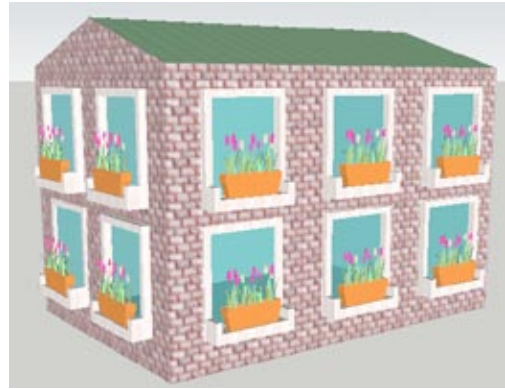

Figure 7-71
1. Download my Flower House model from the 3D Warehouse (Figure 7-71). This model, displayed without edges, contains 10 of the same window components, each with a flower box.